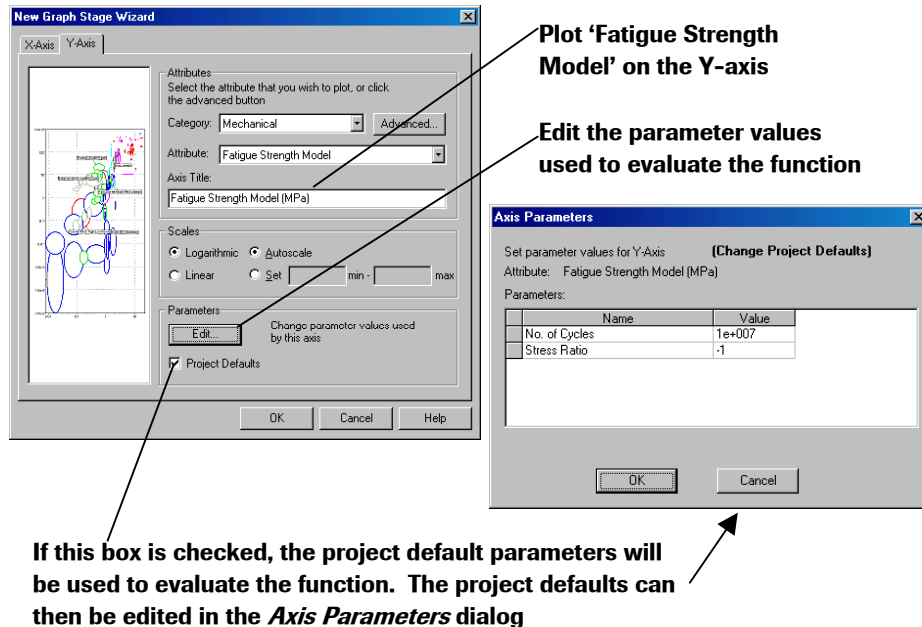

Fig. 4.28 Setting the parameters for plotting a chart with functional data.
Click on the 'Edit' parameters button in the Graph Stage Wizard (figure 4.28)
- (ii) when you *Edit* the parameters (as shown on the right of Fig. 4.28), the project default parameters will be updated.